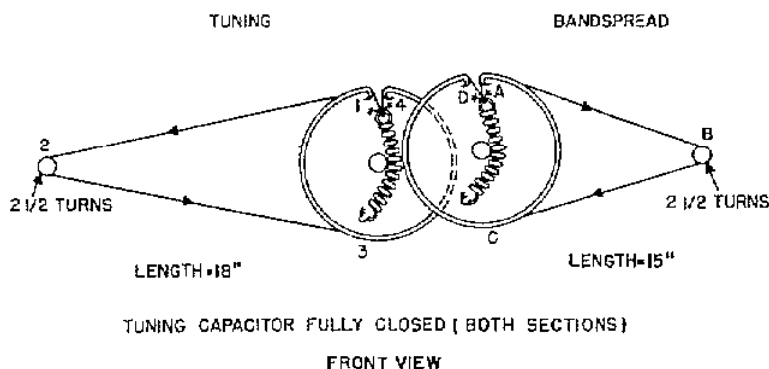

Fig. 2. Dial Cord Stringing Diagram
**DIAL CORD STRINGING** - Refer to Fig. 2 for the stringing diagram. Both sections of the tuning gang should be fully meshed. To restring the TUNING dial cord, tie one end of an 18 inch length of 30 lb. dial cord